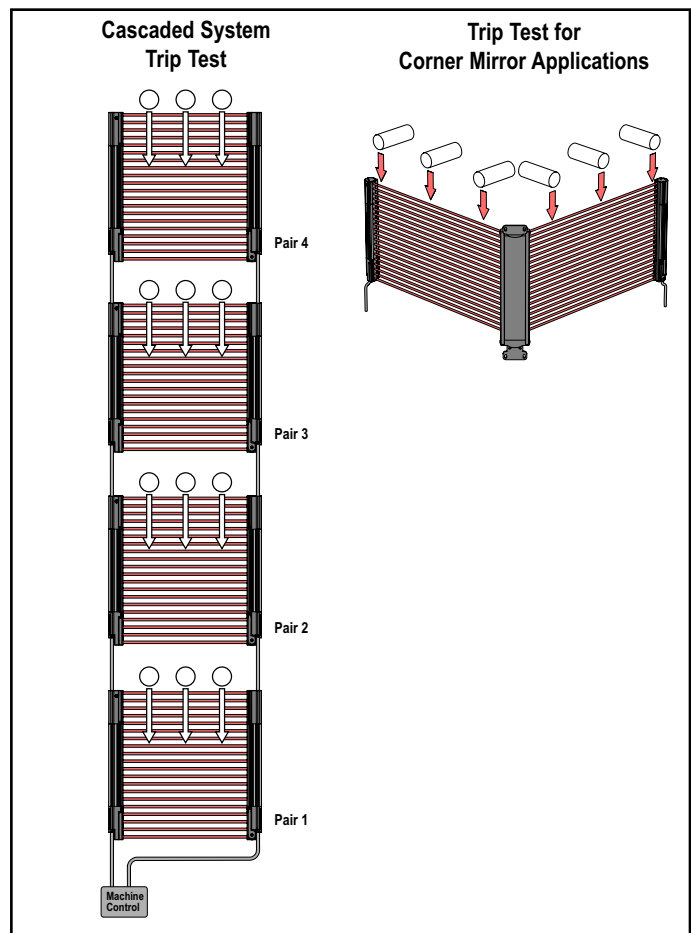

Figure 1. EZ-SCREEN LP trip tests
With power ON, verify that the EZ-SCREEN LP is in RUN mode; receiver #1 (see Figure 1) status indicators should be as follows:
- 5b **With the guarded machine at rest, pass the test piece downward through the defined area of emitter/receiver pair #1 in three paths:** near the receiver, near the emitter, and midway between them (Figure 1).